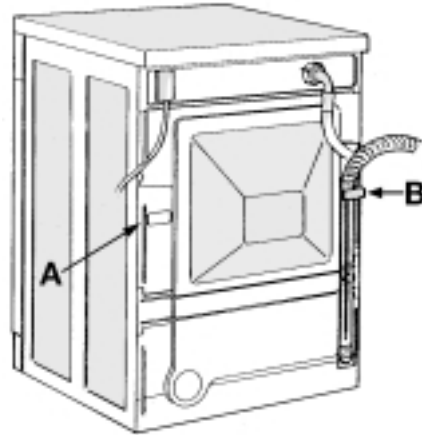

Fig. 1
- 1. Unhook the drain hose from the left clip, see arrow A in Fig. 1.
Do NOT loosen the right drain hose connection, see arrow B in Fig. 1, otherwise there is the risk of leakage (danger of scalding with hot water).